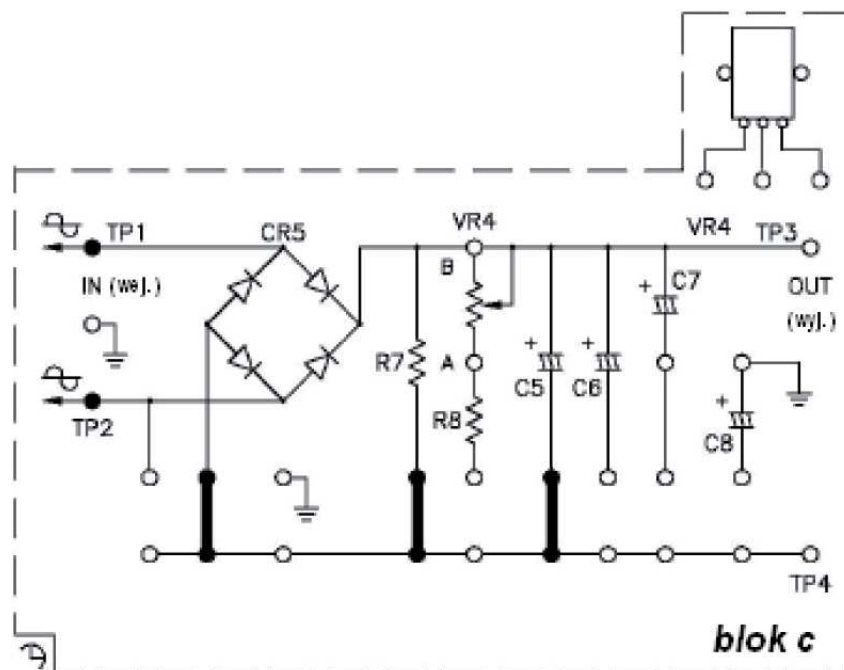

Fig. 5: Electrical assembly schematic (KL-25002 part C)
1. Make the connections according to the assembly schematic (Fig. 5).